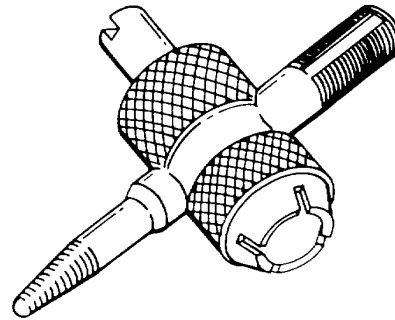

Figure 7-10. Valve Repair Tool
**7-6. Valve Repair Tool.** The valve repair tool shown in figure 7-10 is used for reconditioning air valves. The tap is used on the inside threads, and the die is used on the outside threads. The end opposite the tap is designed for removing and installing the valve core.